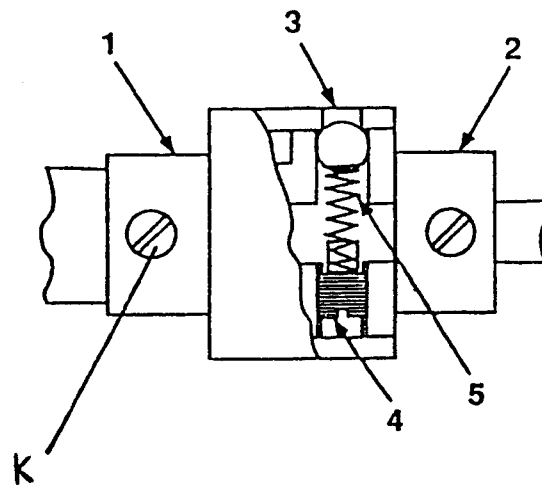

Fig.25
1. If the sewing hook should not be timed correctly, loosen the three set screw (K, Fig.25). Turn the hook shaft to align the hook point with the center of the needle. Re-tighten the three set screw and re-check the timing of the sewing hook.
ADJUSTMENT OF SPRING TENSION OF SAFETY CLUTCH (Fig.25)